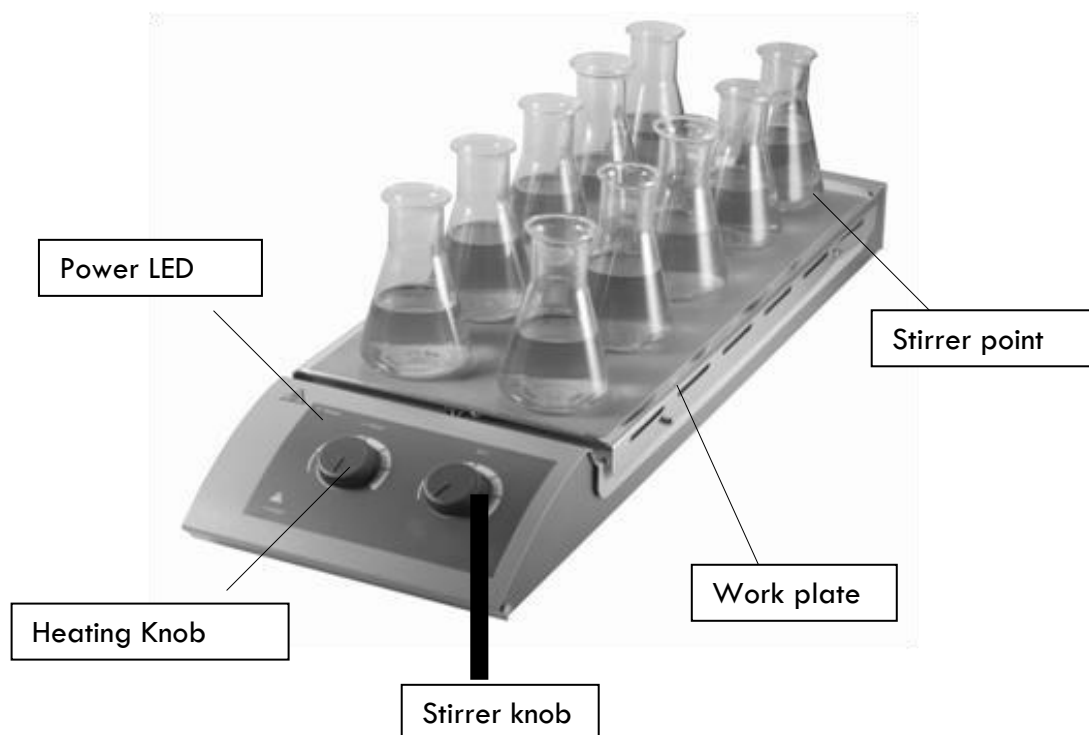

Figure 2
- Put the vessel above spots on the plate (see figure 2).